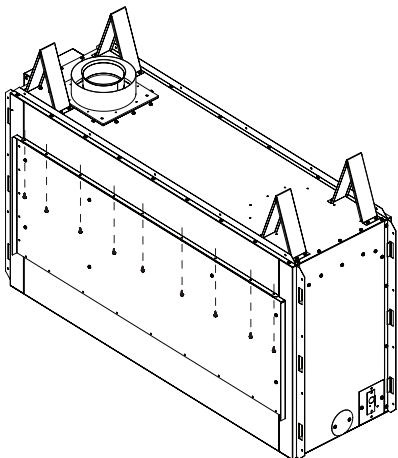

Figure 1 - Removing Rear Panel for See-Thru Applications
1. In the rear of the fireplace, locate screws at top of rear panel and remove as shown in Figure 1. Discard screws and rear panel.